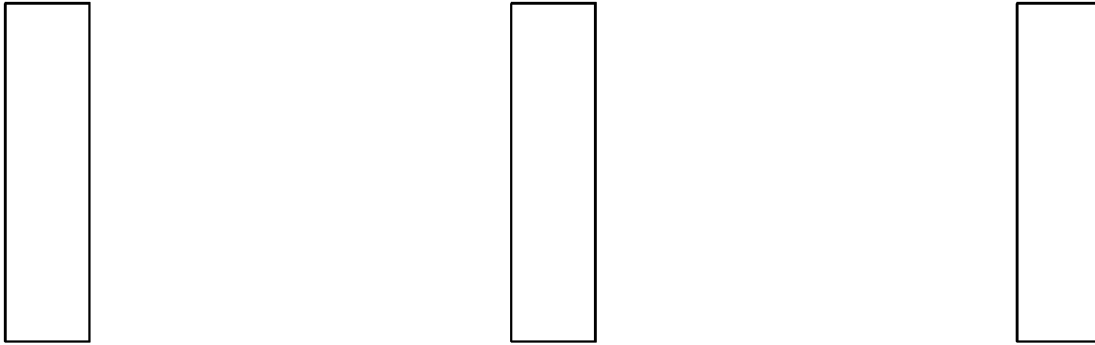

FIGURE 18-3.15 Box family copied for *Type* versus *Instant* study
26. Make two copies of the *Box Family 6'-0"* towards the **right** as shown in Figure 18-3.15 below.